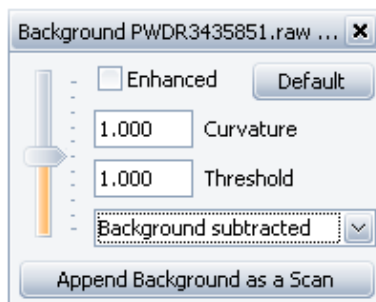

Figure 4. Background Dialog Box.
1. Select **Data Command Panel > Tools > Background** to open the Background dialog box (*Figure 4*).